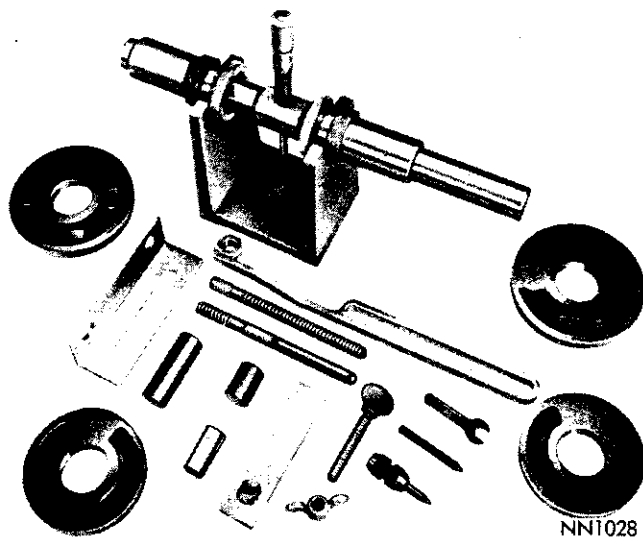
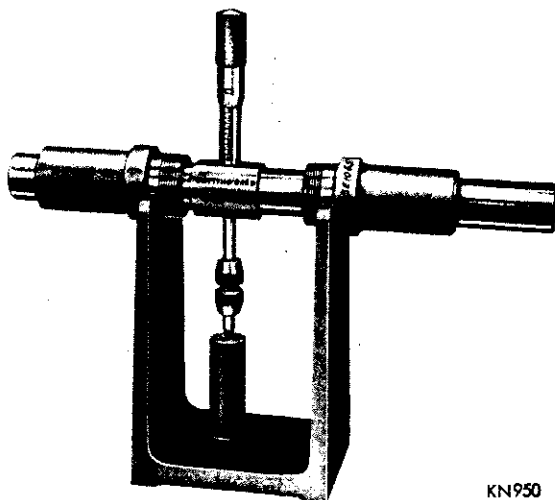

Fig. 37—Pinion Depth Gauge Tool DD-1244
Fig. 38—Checking Gauge in Master Gauge Assembly
(4) Position drive pinion and bearing assembly in carrier and install front pinion bearing cone on pinion stem. Do not install preload shims behind front pinion bearing at this time.
(5) Install universal joint pinion flange followed by washer and nut. Tighten nut just enough to obtain 10-30 inch-pounds of preload. Rotate drive pinion while tightening to seat bearing rollers.
(6) The pinion depth gauge Tool DD-1244 (Fig. 37), is a direct reading precision micrometer, mounted in an arbor and is calibrated to show the distance from the end of the anvil to the centerline of the gauge set. To check the accuracy of the gauge, install the micrometer and arbor in the master gauge. Install the checking block and read the micrometer, it should be accurate within less than .0005 inch (Fig. 38).
(7) Select the proper adapters from the gauge set that fits the differential bearing cup bores. Install the adapters on the arbor and position in carrier housing.